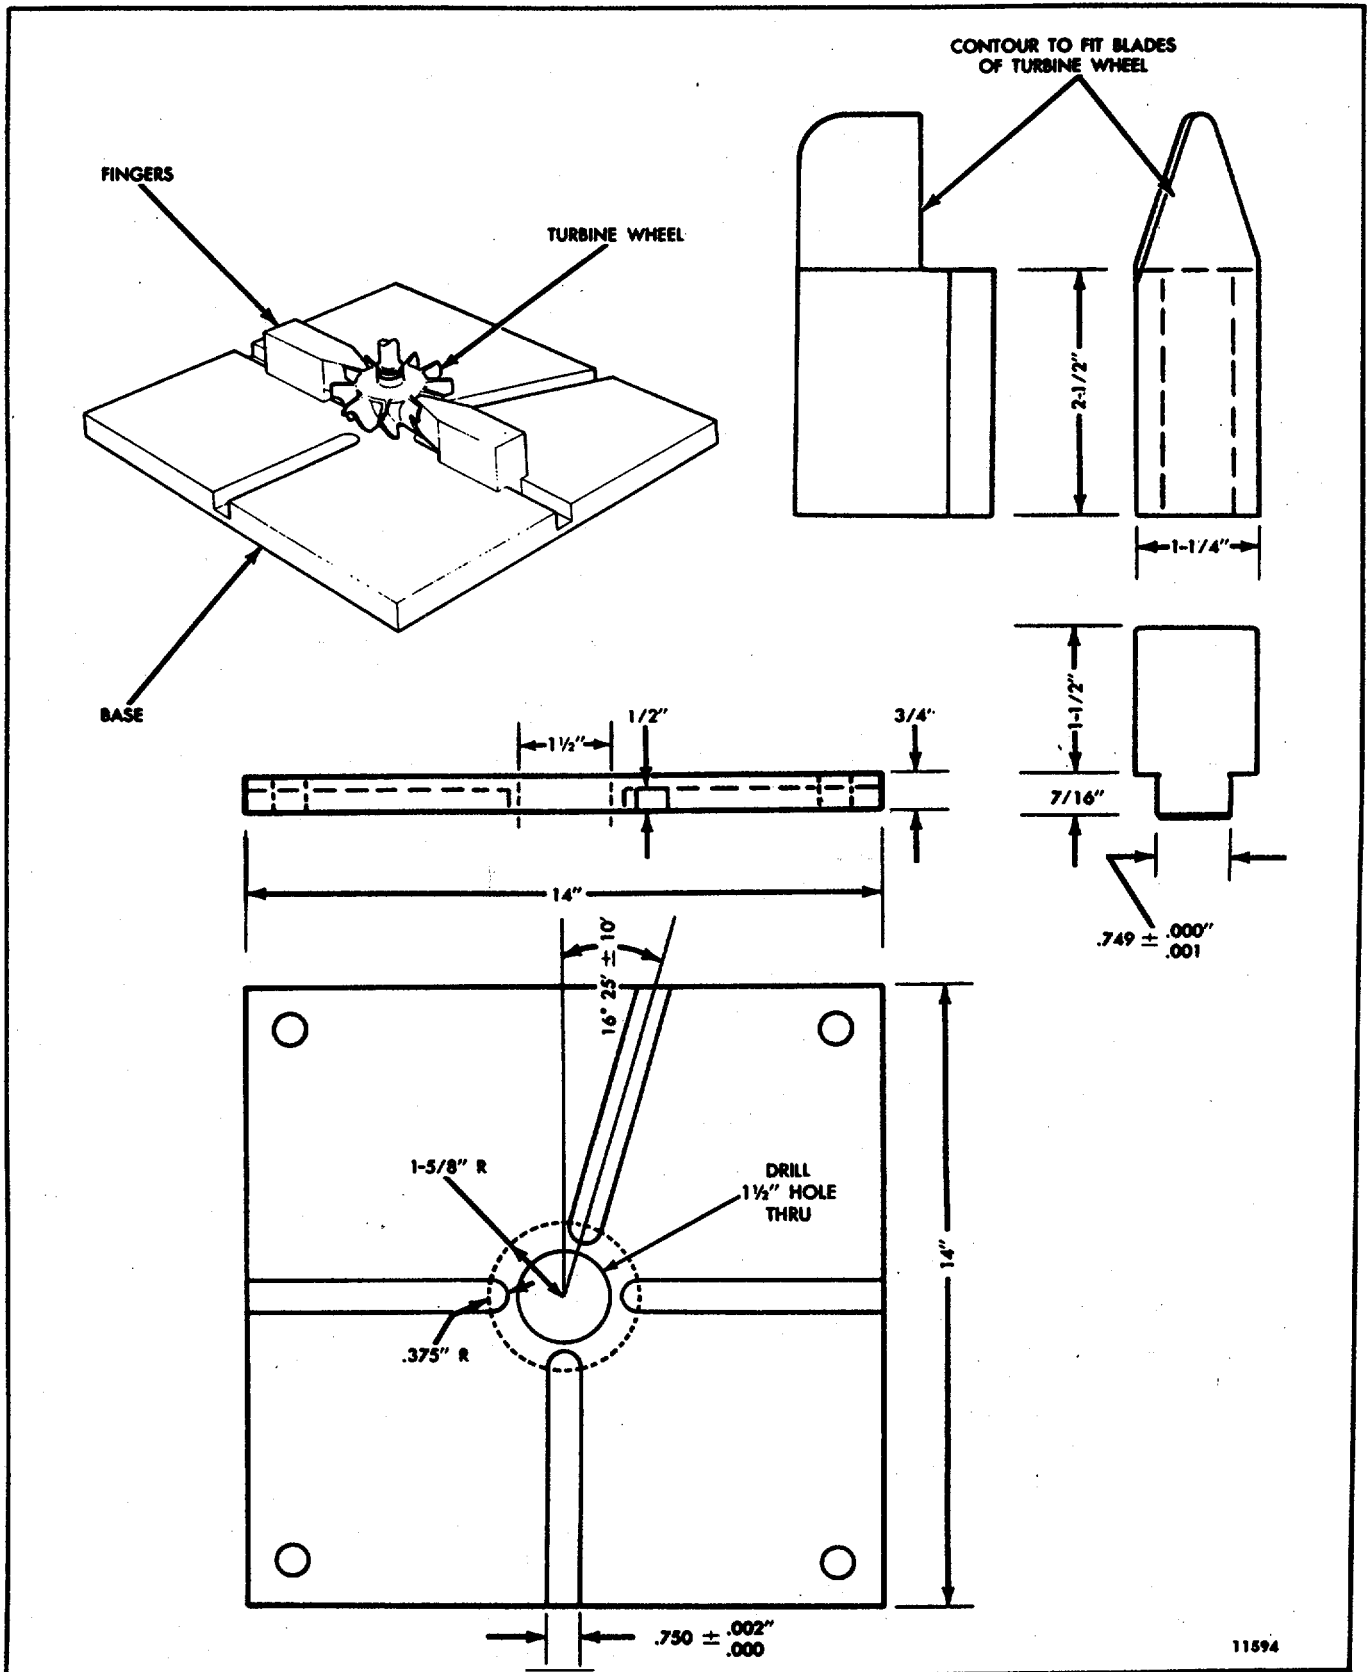

FIG. 9 - Turbocharger Holding Fixture
11. Place the turbine wheel shaft assembly, shroud, center housing and backplate upright in a suitable holding fixture as shown in Fig. 9.